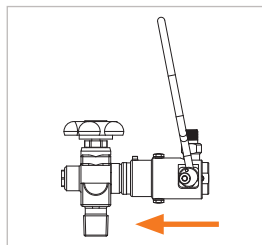

Figure 3
- ▶ Insert the connector loosely and straight into the cylinder valve until a noticeable seal contact has been established (Figure 3). Doing so will prevent any damage to the front seal caused by any sharp edges on the cylinder valve and ensure a correct connection.